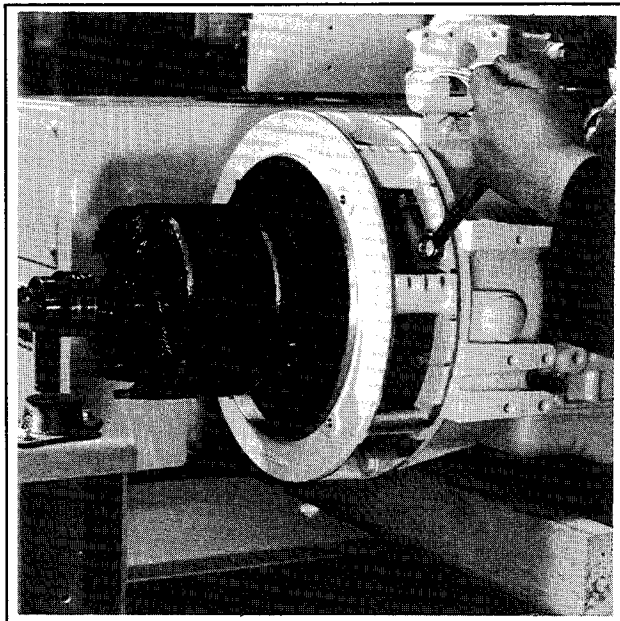

Figure 8-15. Removing Generator Adapter
18. Remove four screws and flat washers attaching generator adapter to flywheel housing. See Figure 8-15.